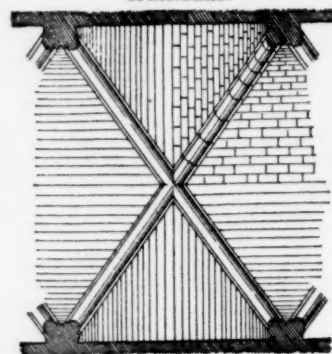

Fig. 66.
2. QUADRIPARTITE. — a. Having groin-ribs only. (Fig. 66. Durham Cathedral.) This is not exactly rib and panel vaulting, but rather solid vaulting with groin-ribs.